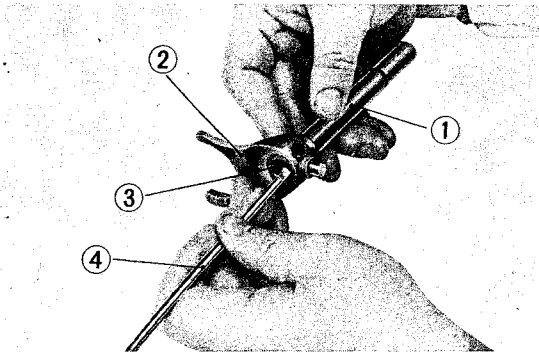

Fig. 91 ① Shift fork guide shaft ② L. shift fork ③ 4×10 roller ④ Screwdriver
- 1) Assemble right gear shift fork on the gear shift guide shaft. (Fig. 91)